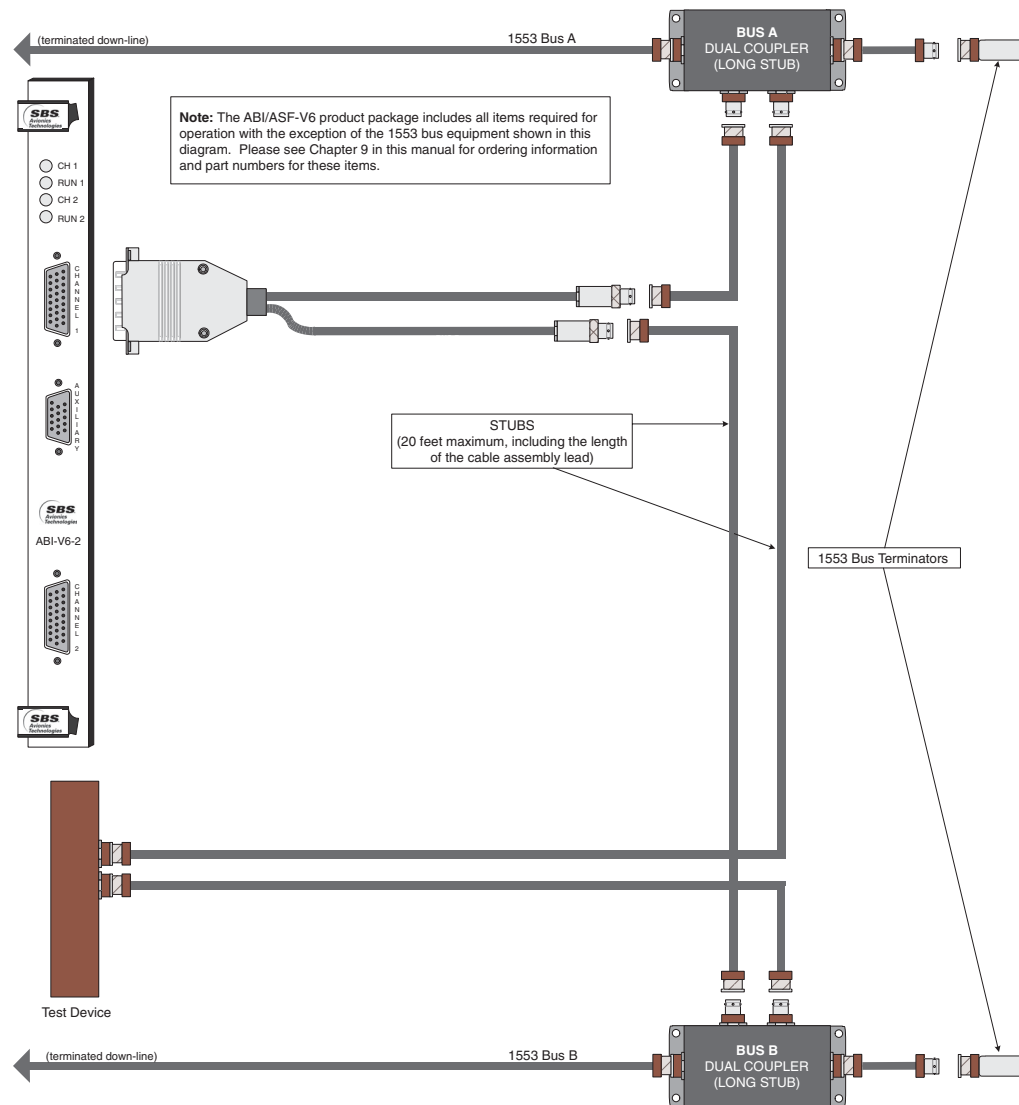

Figure 7.0.1: Connecting the V6 to a 1553 Bus
2. Attach the Bus A cable to the stub connector on an appropriate transformer-coupled device (see Figure 7.0.1).
3. Attach the Bus B cable to the stub connector on an appropriate transformer-coupled device (see Figure 7.0.1).